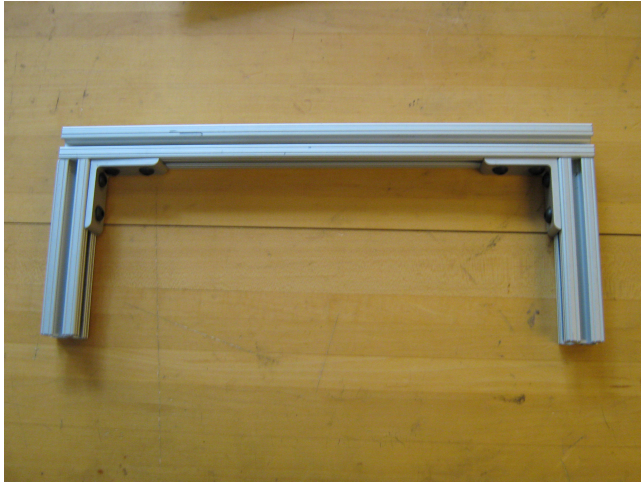

Figure 5: Completed rollbar.
1. Assemble the rollbar (see Figure 5).